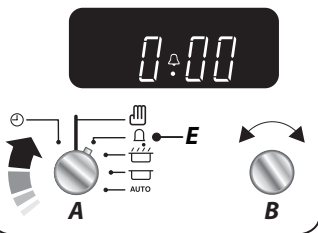

Fig. 2.3
2. Turn the **Adjusting (B)** knob to set the amount of time required. e.g. 20 seconds (**Fig. 2.3**).